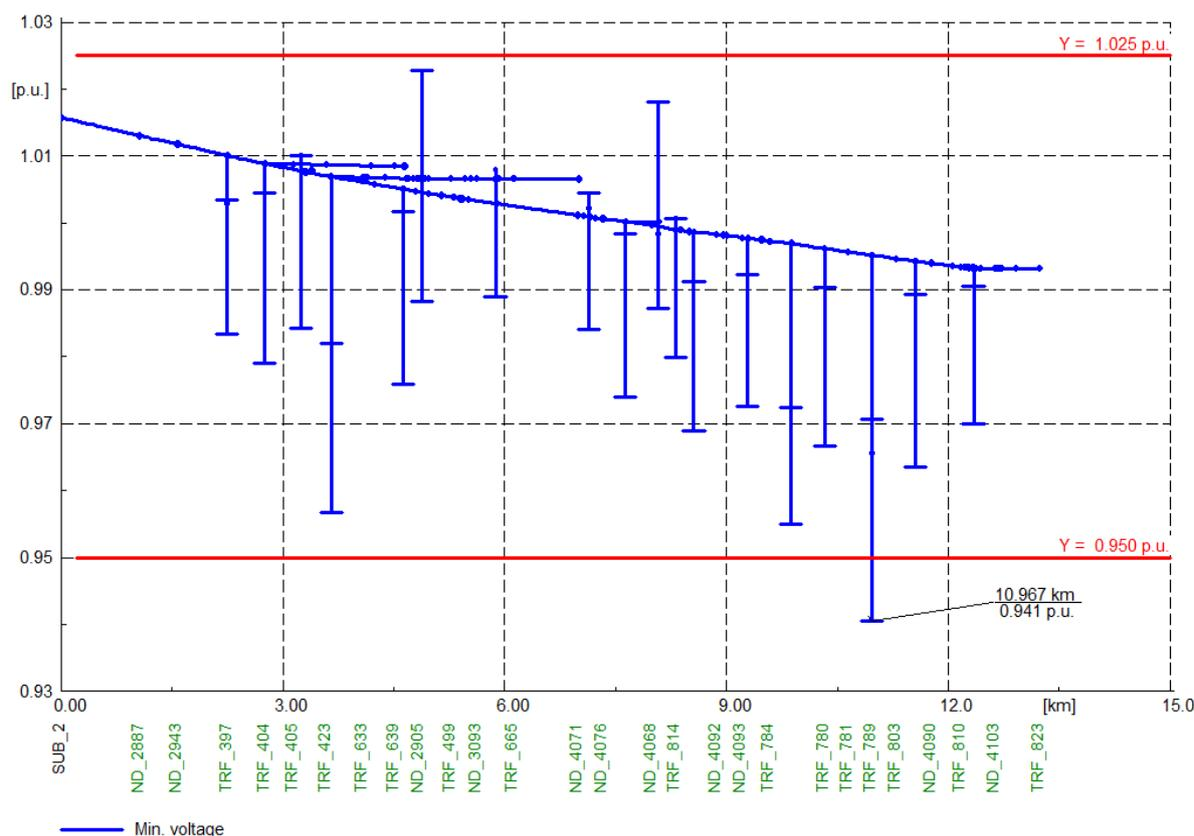

Figure 4.7: Voltage Profile Optimisation according to production case for maximisation of generation
- **Independent Consideration of Production and Consumption Case:** Definition of a calculation case, on which it is possible to perform Voltage Profile Optimisation according to predefined settings for the production case or consumption case individually. This results in a clearer graphical representation, as illustrated in Figure 4.7.